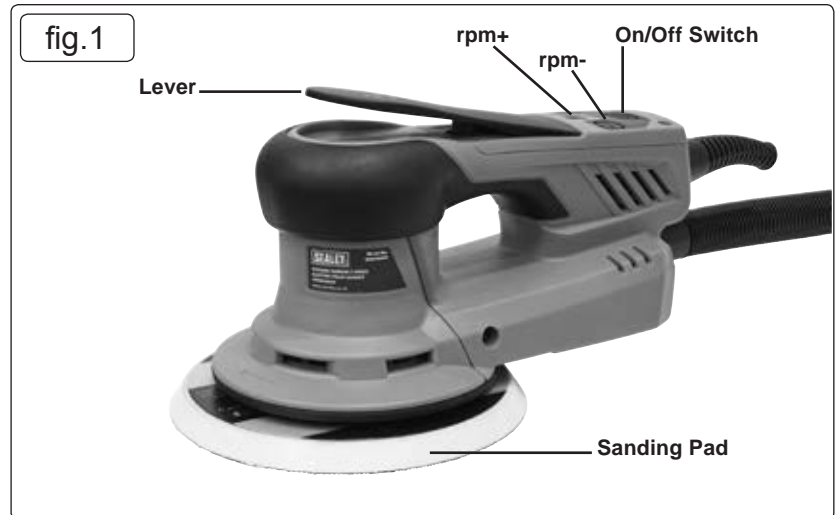

fig.1 — DA Backing Pad for Hook-and-Loop Discs Ø145mm 5/16"UNF
- 4.3.4. Adjust the rpm speed by using the **rpm+** & **rpm-** buttons (fig.1). Speeds range from 4,000rpm to 10,000rpm, each press increases **+** or decreases **-** by 1,000rpm.
- 4.3.5. Once the desired speed is set, push down the lever (fig.1) and the tool will start slowly, then quickly get up to speed, ready to use.